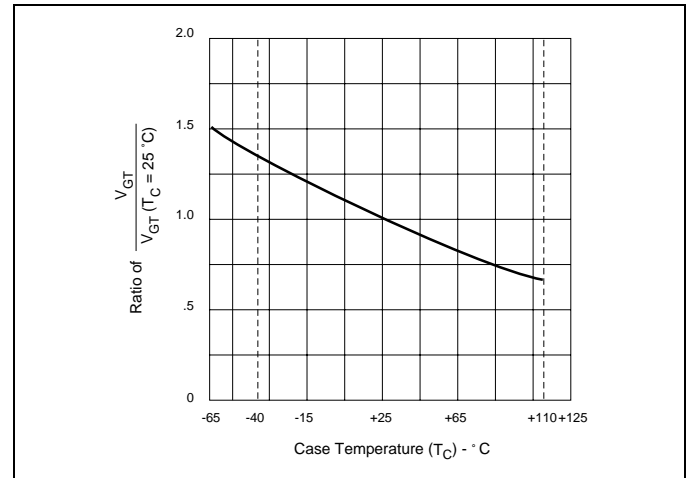

Figure E1.6 Normalized DC Gate Trigger Voltage for All Quadrants versus Case Temperature
- (5) See Figure E1.6 for  $V_{GT}$  versus  $T_C$ .